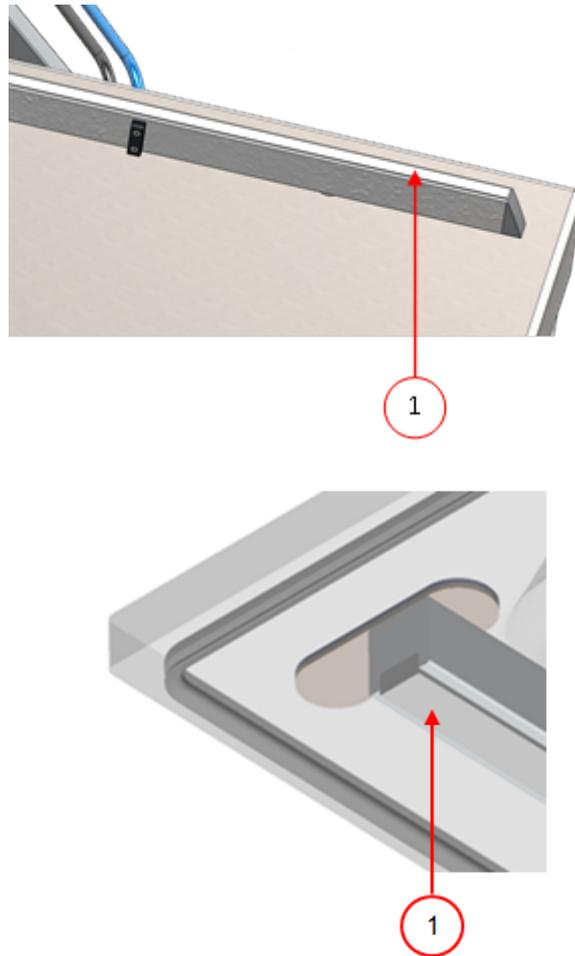

Figure 27: Replacing the Silicone Rubber of the Silicone Holders
1. Pull the old silicone rubber from the holder, see *Figure 27: Replacing the Silicone Rubber of the Silicone Holders* on page 71.